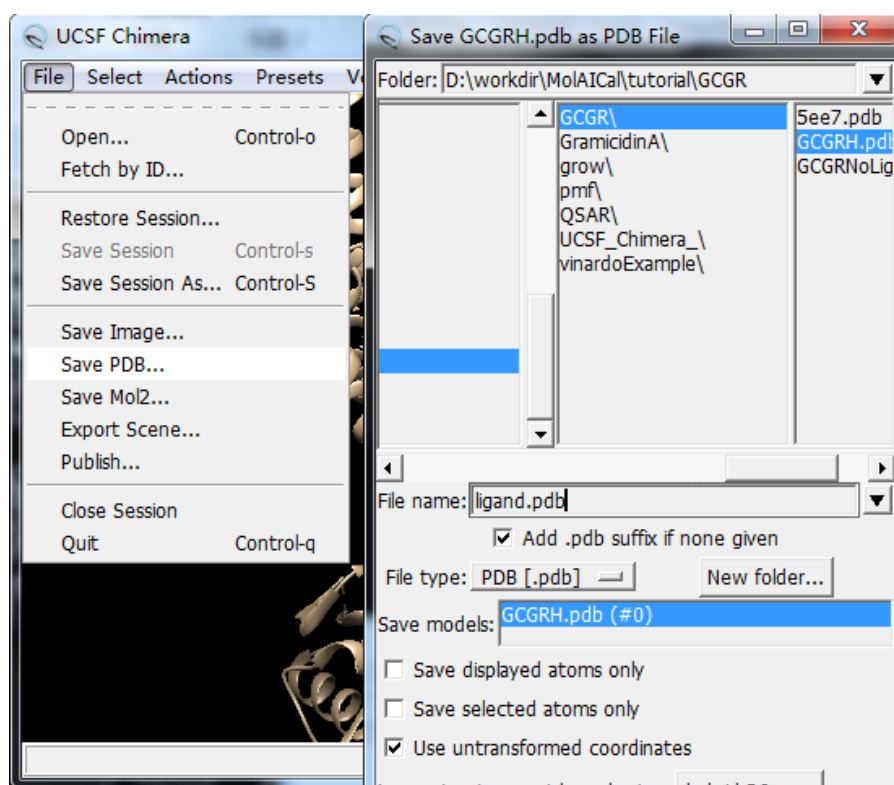

Figure 13. Saving ligand coordinate.
4. Then save ligand to ligand.pdb. It can be split into different fragments which can be chosen as the start growth fragment in the pocket of GCGR (see Figure 13).